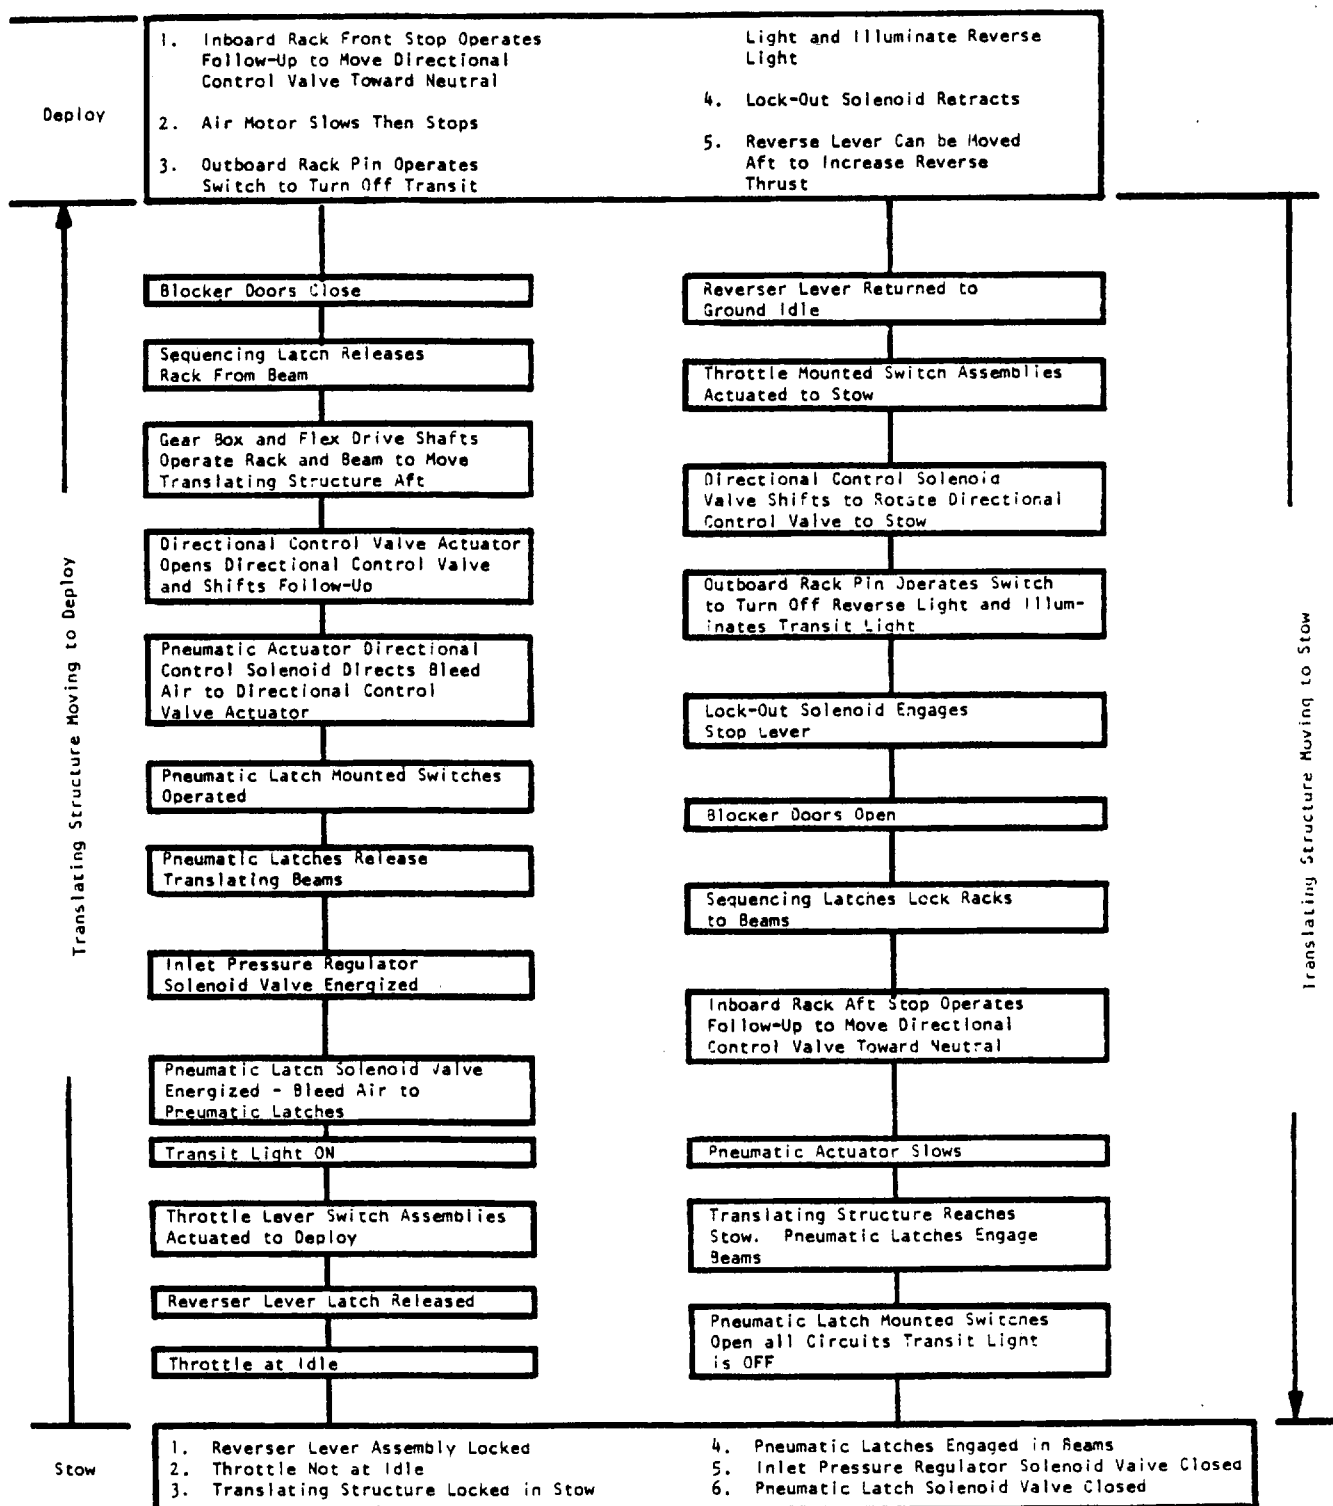

Figure 5 - Thrust Reverser System Operating Cycle
2. System Operation. (Figure 5)